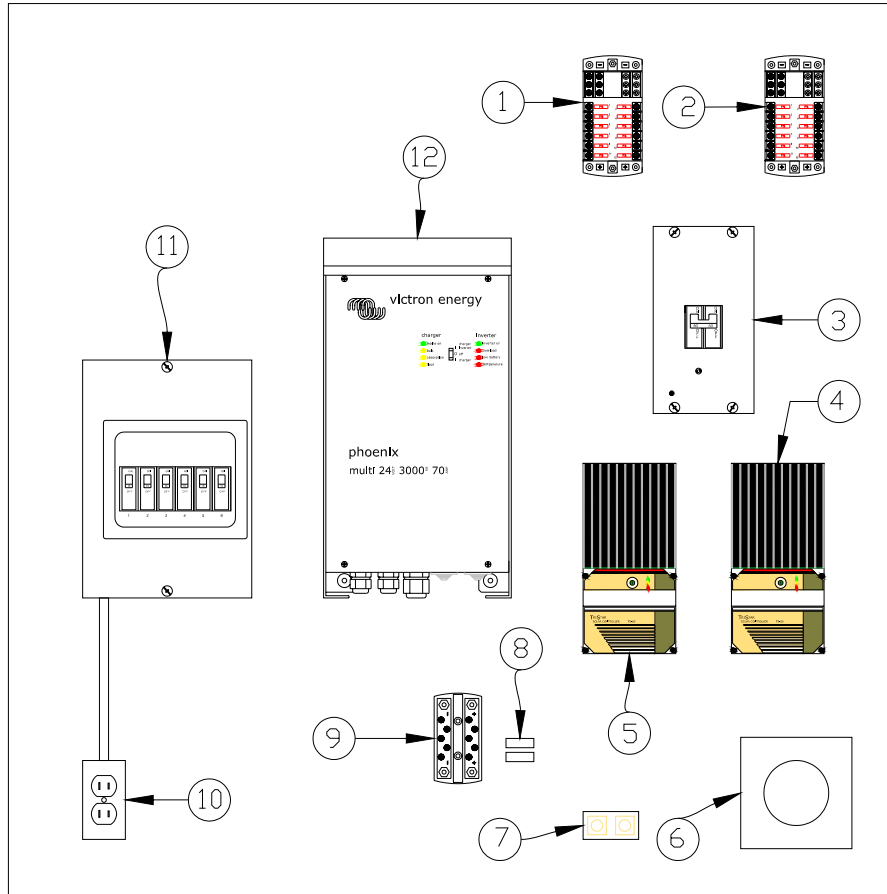

Figure 3.2: Control Module
The Control Modules are heavy. Mounting the modules will take at least four people. Mount the module on the wall about 3_ft (0.9_m) from the floor. An easy way to do this is to place the module on 2x4 studs that have been cut to 3-ft (0.9_m), see Figure 3-2. This will help keep the module in place while Tapconning it to the wall. If the 2x4 studs were left on the back of the Control Module, use the 3-1/2" Tapcons. If the 2x4 studs were removed (preferred), use the 1-3/4" Tapcons.
- A. The Solar Disconnect, Inverter, and Main AC Lug all need to be turned off and the fuses in the Battery Monitor's Fuse Holder need to be removed before connecting the batteries. See Figure 3.2 on Page 3-5.
- Step 1: Verify that the Solar Disconnect (3) is OFF, circuit breaker is in the down position.
- Step 2: Verify that the Inverter (12) is in the OFF position, switch in the center position.
- Step 3: Verify that all six circuit breakers are OFF in the Main AC Lug (11), circuit breakers are in the down position.
- Step 4: Verify that both fuses are removed from the Battery Monitor's Fuse Holder (8).